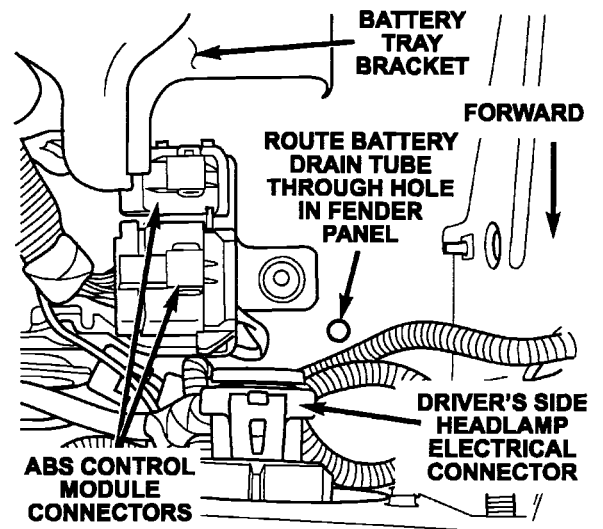

Figure 15
7. While installing the new battery tray into position, route the drain tube through the original hole in the fender panel (Figure 15) and connect the battery temperature sensor electrical connector.